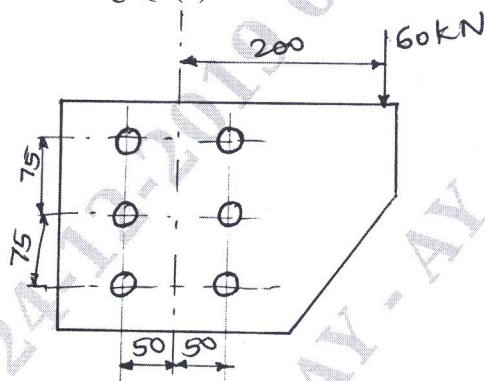

Fig.Q7(b) All dimensions are in mm.
- b. A bracket is riveted to a column by 6 rivets of equal size as shown in Fig.Q7(b). It carries a load of 60 kN at a distance of 200 mm from the centre of the column. If the maximum shear stress in the rivet is limited to 150 N/mm^2 . Determine the diameter of rivet. Following figure shows the arrangement Fig.Q7(b).